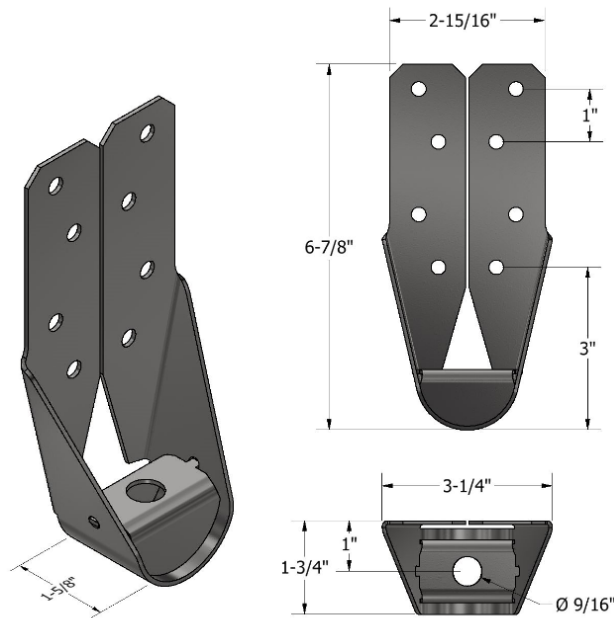

FIGURE 3. *HD*TT AND *HD*TT3 HOLD DOWN
- a. The *HD*TT is 14 gauge (minimum thickness with coating 0.0705") and is manufactured from *ASTM* A653 Structural Steel, Grade 50, Class 3 ($F_u = 70$ ksi, $F_y = 50$ ksi) steel galvanized with G185 or better zinc coating. The *HD*TT3 is 12 gauge (minimum thickness with coating 0.0994") and is manufactured from *ASTM* A653 Structural Steel, Grade 50, Class 3 ($F_u = 70$ ksi, $F_y = 50$ ksi) steel galvanized with G185 (min.). See Figure 3 and Table 2 for fastening schedules and design values.